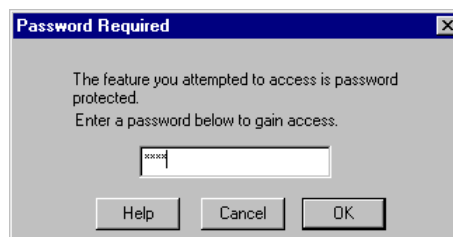

Figure 59 – Password Required Dialog
3. The Password Required dialog appears, as pictured to the right in figure 59.